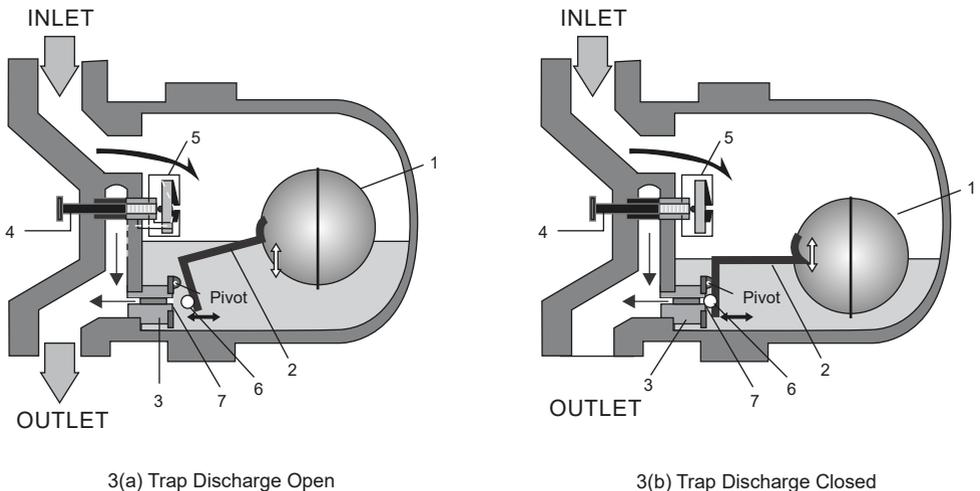

Figure3: Single Orifice Float trap working
*The float trap in the figure 3. shows a TV+SLR assembly. SOFT31(DN40/50) comes with only TV or SLR assembly